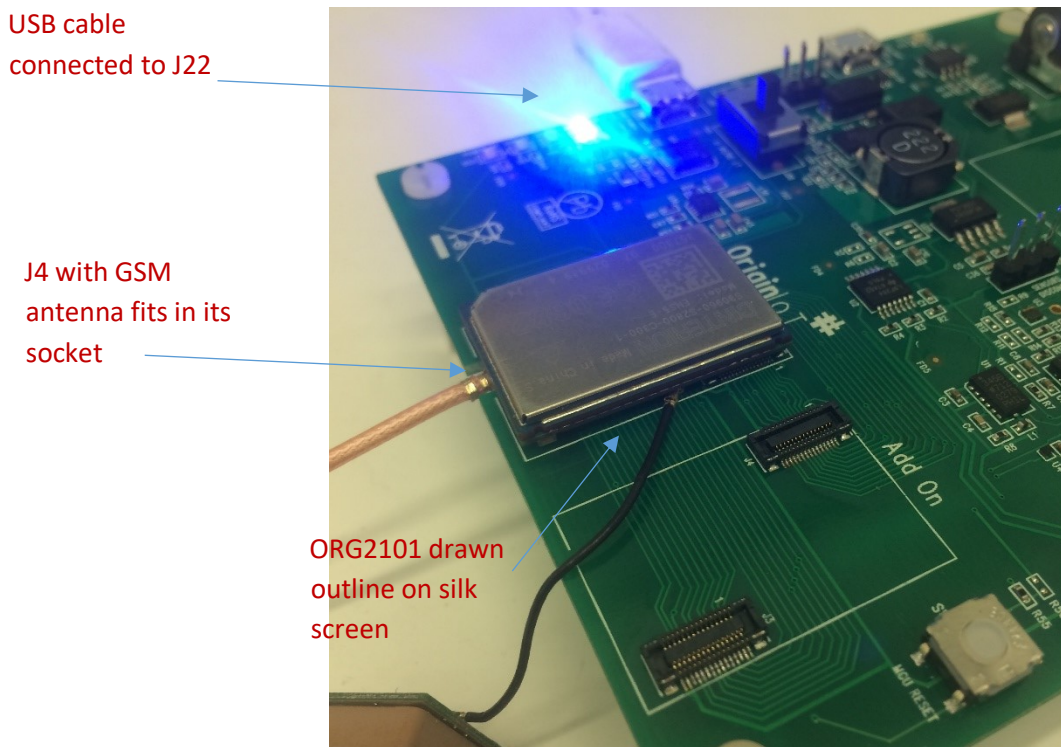

Figure 2 – mating ORG2101 to EVK correctly
4. The OriginIoT module should be connected to EVK board up-side down (components' side down) to the area near the OriginIoT logo on the EVK, see figure 2.